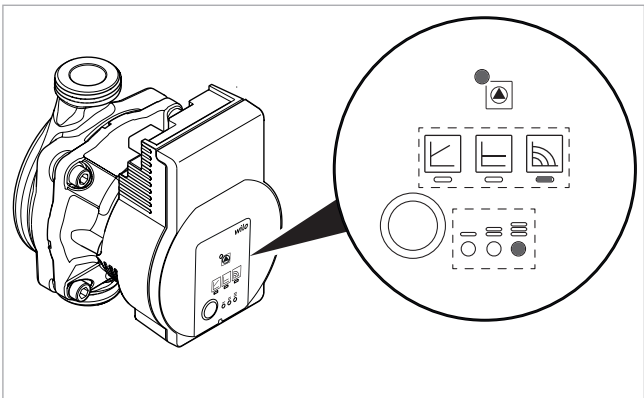

Fig. 123: Basic setting (constant speed, characteristic curve III)
** Press the 9th button to return to the basic setting (constant speed, characteristic curve III, see → Fig. 123).